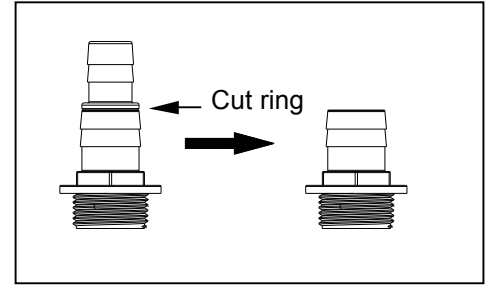

Fig. 1
1. If using 3/4 in. ID tubing, proceed to step 2. If using 1 in. ID tubing, cut the adapter as shown using a hacksaw. Fig. 1